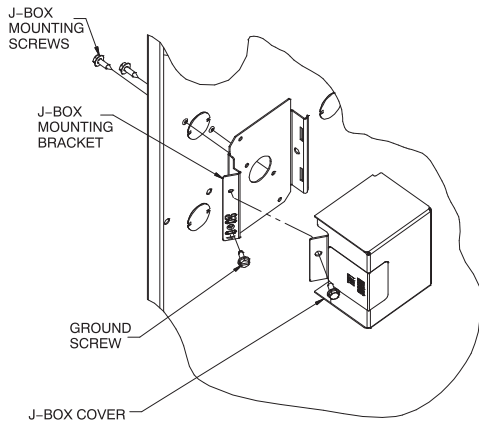

Fig. 33 - Installing J-Box (When Used)
The J-Box cover, mounting bracket and screws are shipped in the loose parts bag included with the furnace. The J-Box can be mounted on the left or right side of the casing, as viewed from the upflow position. See Fig. 33.
Align the J-Box mounting bracket against the inside of the casing and secure the mounting bracket with the screws. See Fig. 33.
6. Connect field ground wire and factory ground wire to green ground screw on J-Box mounting bracket as shown in Fig. 33.
1. Install J-Box mounting bracket to inside of furnace casing. See Fig. 33.
5. Connect field ground wire and factory ground wire to green ground screw on J-Box mounting bracket as shown in Fig. 33.
7. Attach furnace J-Box cover to mounting bracket with screws supplied in loose parts bag. Do not pinch wires between cover and bracket. See Fig. 33.
4. Connect field ground wire and factory ground wire to green ground screw on J-Box mounting bracket as shown in Fig. 33.